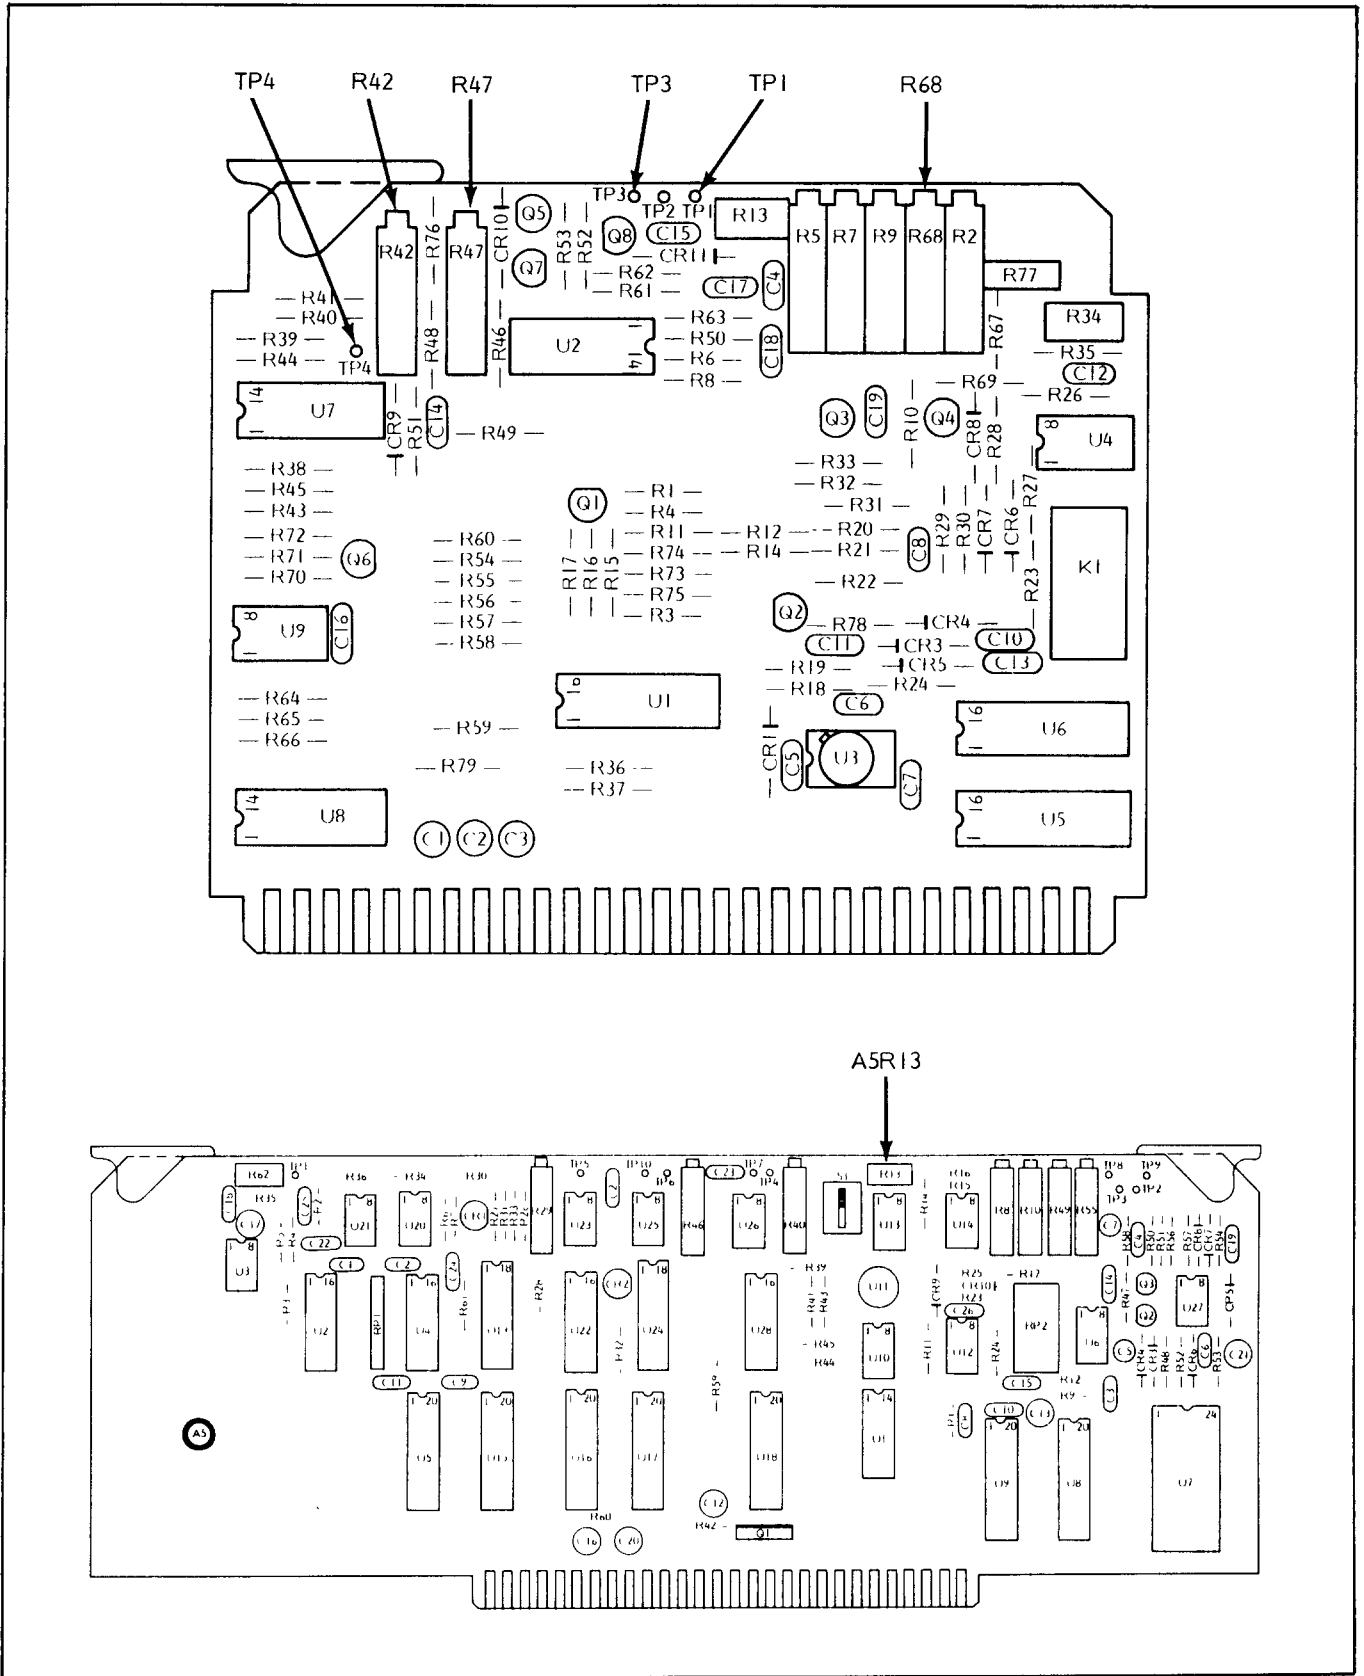

Figure 5-21. A7-A8 YIG Driver Adjustments
5. Connect the common lead on the digital multimeter (DMM) to A7TP1 (Figure 5-21) and the test lead to A7TP4.
3. Connect the common lead on the digital multimeter (DMM) to A8TP1 (Figure 5-21) and the test lead to A8TP3.